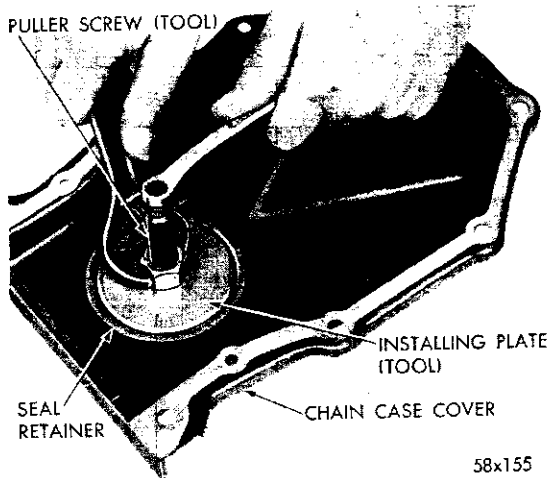

Fig. 26—Installing a New Seal
(4) Install the flat washer and nut on the puller screw, hold screw and tighten the nut (Fig. 26).
(5) The seal is properly installed when the neoprene is tight against the face of the cover. Try to insert a .0015 inch feeler gauge between the neoprene